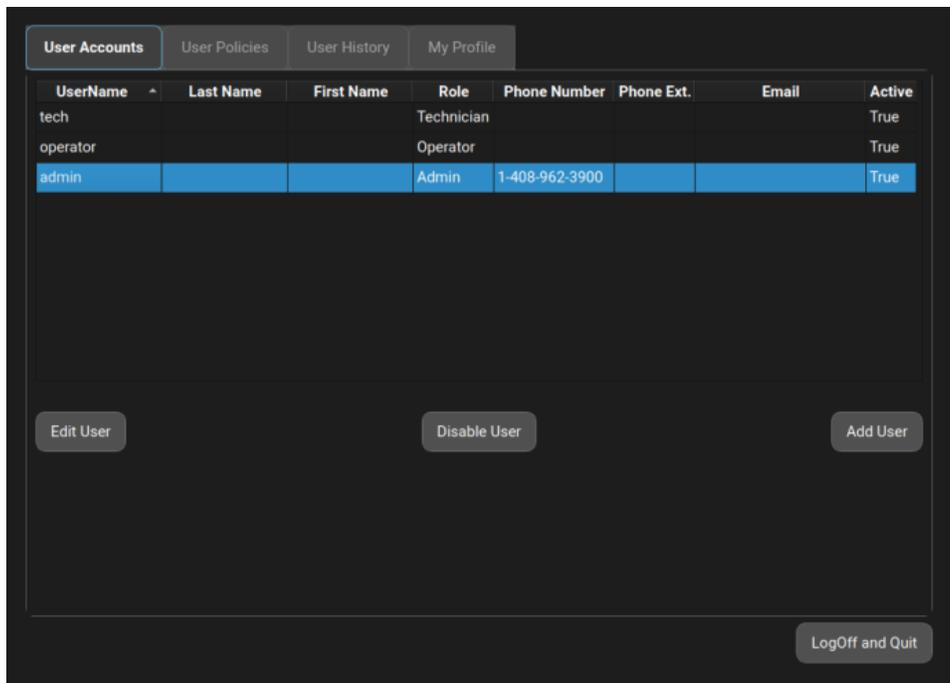

Figure 37 - User Management Window
3. From the **Tools** menu, select **User Administration** to view the User Management a shown in Figure 37.